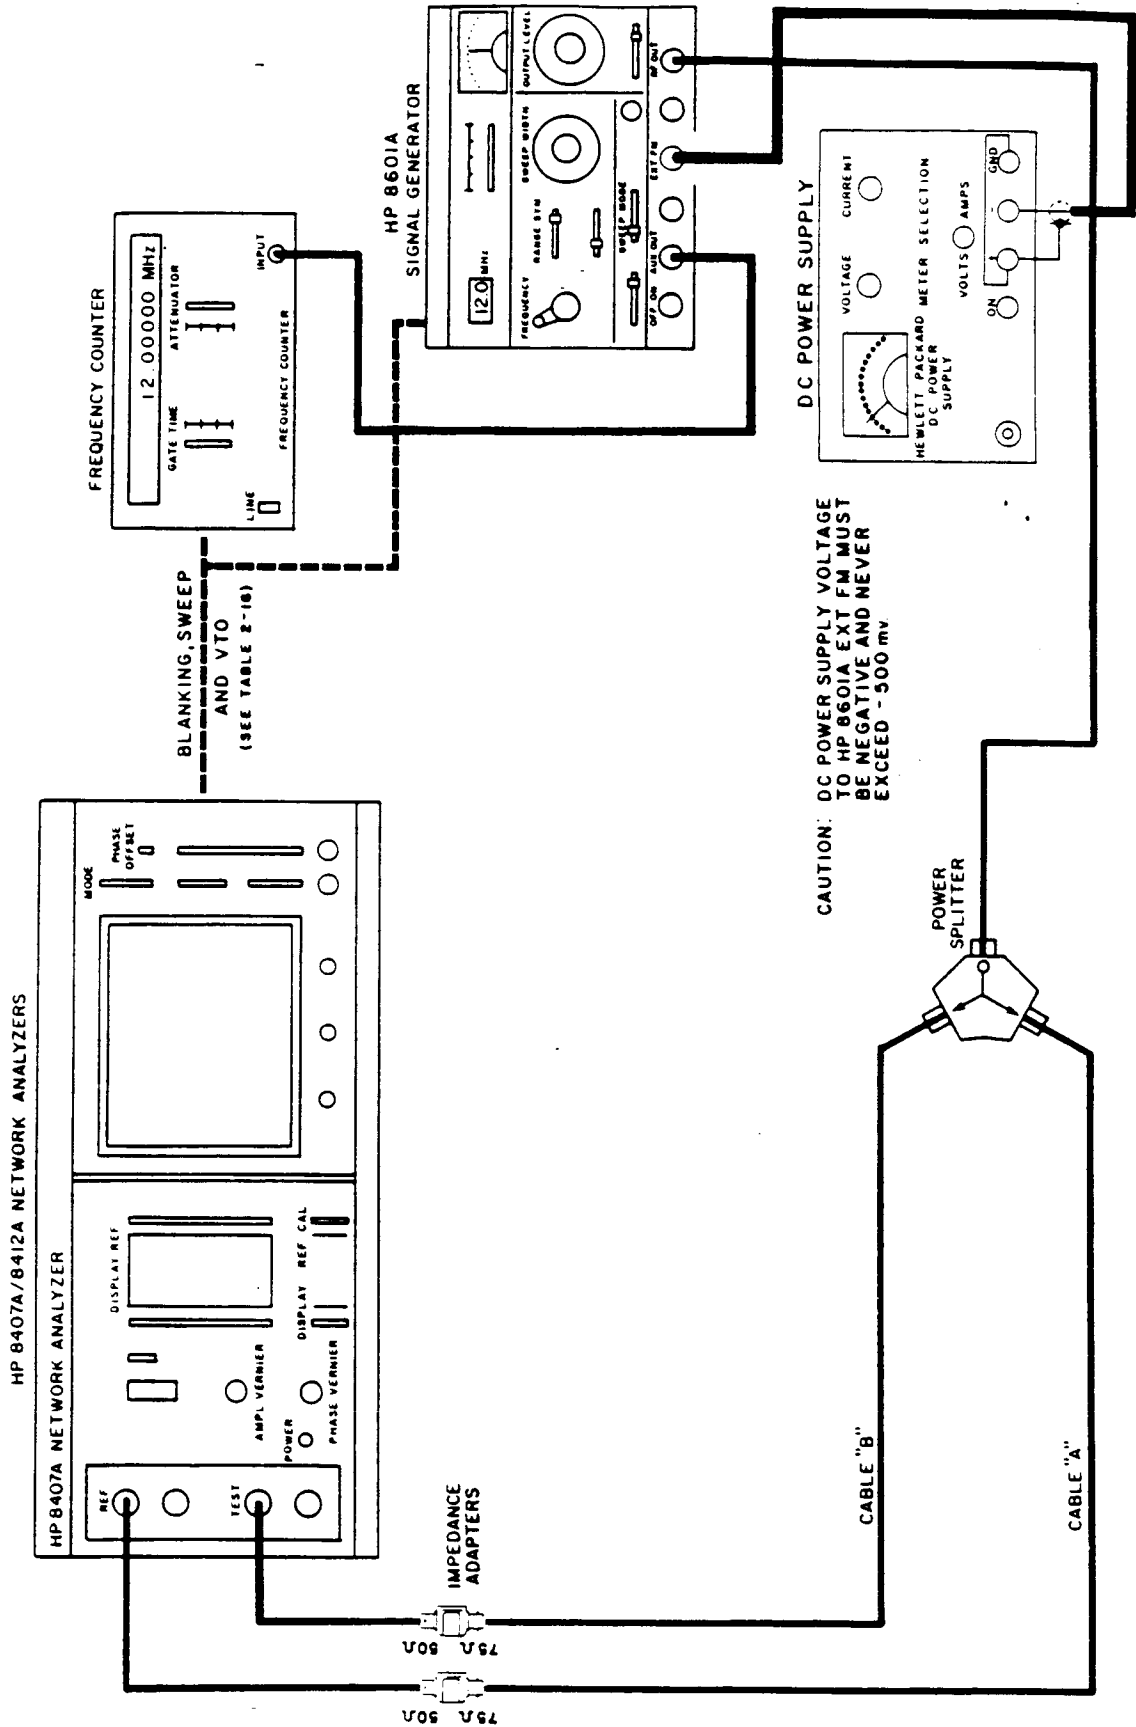

FIGURE 2-46. HP 8407A/8412A Network Analyzer Test System, Calibration Setup.
- a. Connect equipment as shown in Table 2-16 for preliminary calibration, however replace the low band transformer test jig with the power splitter as shown in Figure 2-46. Connect impedance adapters directly to the HP 8407A to reduce unnecessary cabling.